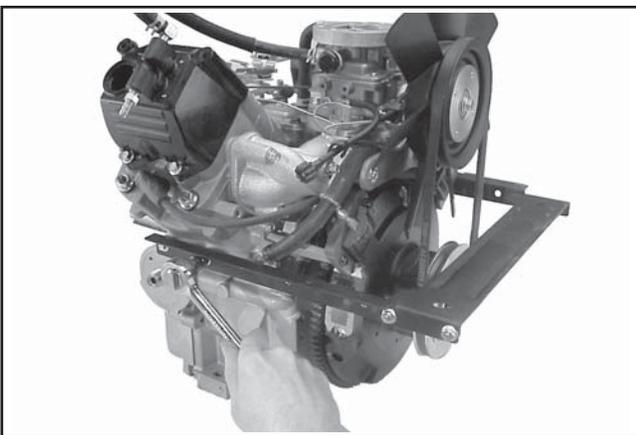

Figure 11-101. Mounting Lower Radiator Supports.
9. Mount the RH and LH lower radiator supports with cross support bracket attached, to the crankcase, using the four hex flange screws. Snug the screws only at this time. See Figure 11-101.